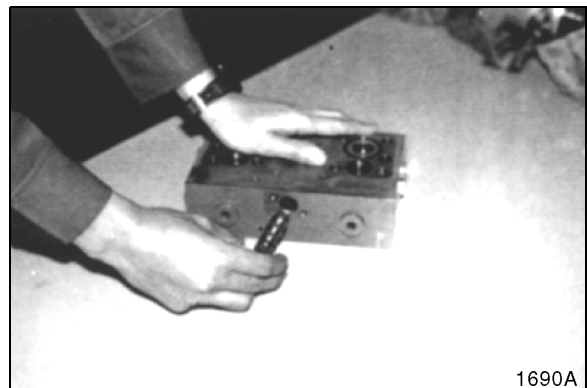

Figure 96
5. Install bushing. See Figure 96.